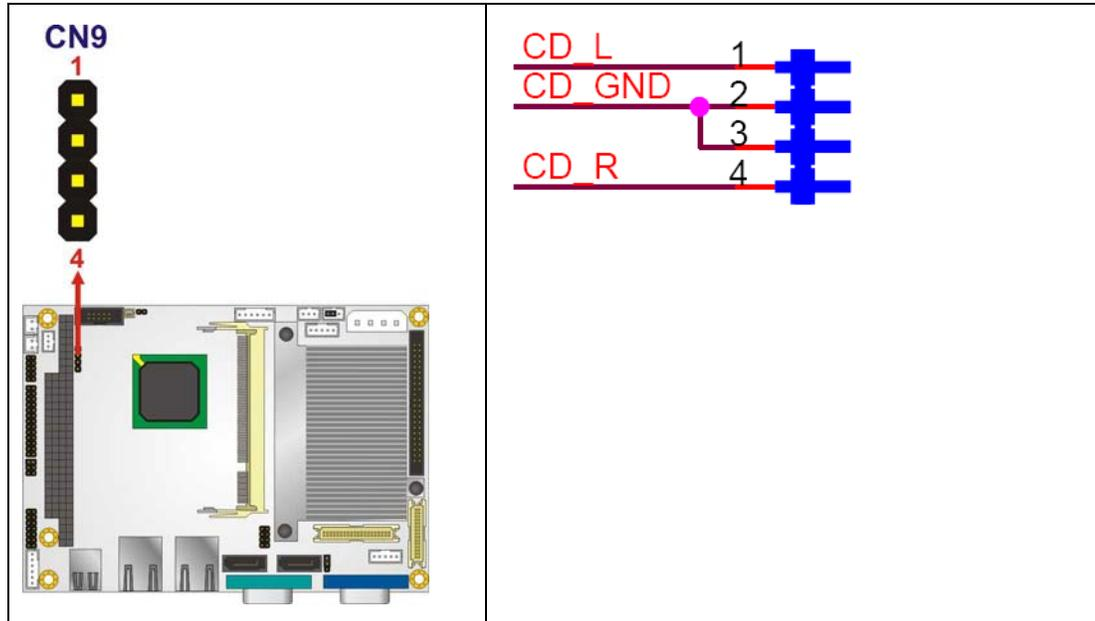

Figure 4-6: Audio CD In Connector Pinouts (4-pin)
- CN Location:** See **Figure 4-6**